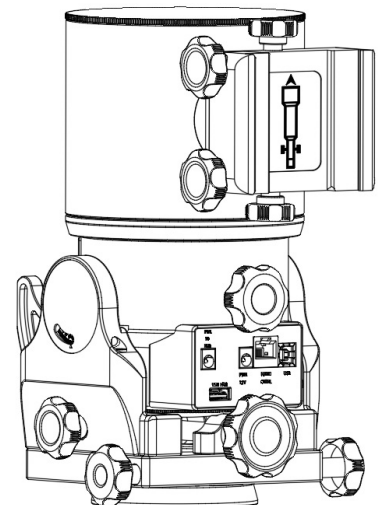

Fig. 3
2.For Alt-Azimuth (**AZ**) mode, turn the Altitude adjustment knob counterclockwise until it is jammed, and then lock Latitude locking knobs. leave the mount in upright position as shown in Fig.3